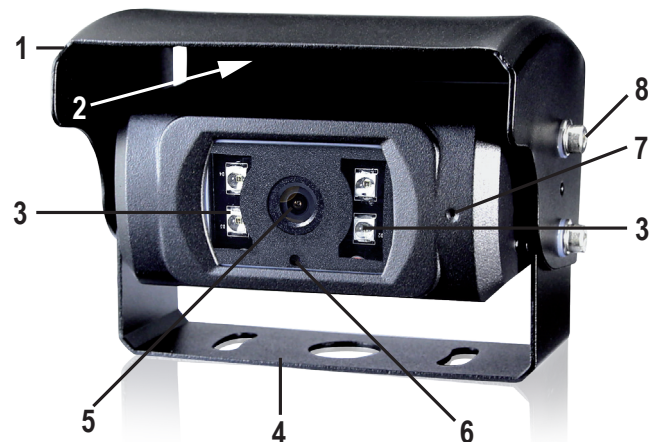
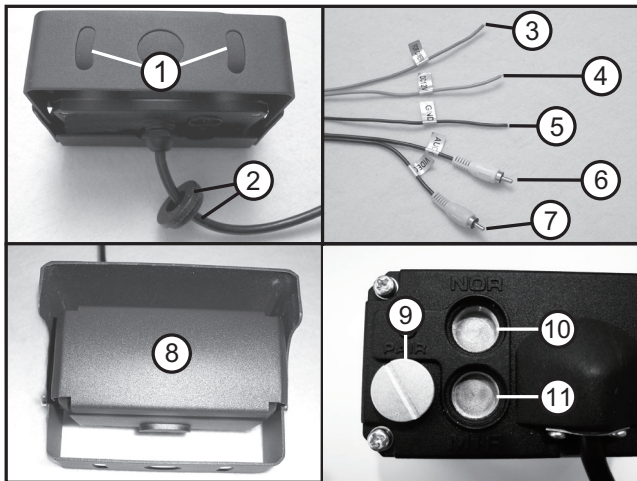
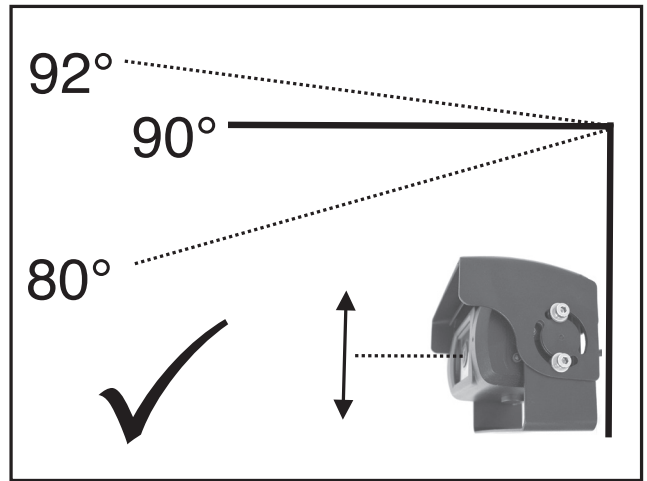

Figure 1
Figure 2
Figure 3
The camera is not suitable for mounting in a hanging position. As shown in figure 3, the installation must be in an upright position or similar.
- Place the camera along with the mounting bracket (figure 1, pos. 4) on the intended mounting location and mark the mounting holes in the middle of the two slots of the mounting bracket (figure 2, pos. 1). Drill the mounting holes, suitable for the screws to be used, with an appropriate drill.
- Check whether your vehicle already has a suitable opening that can be used to lead the camera's connection cable with 5-pole plug (Fig. 2, Pos. 2) into the interior of the vehicle. Otherwise, you must drill a corresponding hole at a suitable spot. To be able to correctly install the cable seal attached to the camera's cable (Fig. 2, Pos. 2), the drilled hole must have a diameter of 20 mm.
- Engage the power supply for the camera. For this purpose, connect the black cable ("GND", figure 2, pos. 5, approx. 3.5 meters long) with the vehicle mass (negative, e.g. for the reversing light) and the red cable ("DC 12V", figure 2, pos. 4, approx. 10 meters long) with a 12V-positive cable which only carries voltage when the ignition is turned on (e.g. under the dashboard). Connect the pink cable ("for camera", figure 2, pos. 3, approx. 3.5 meters long) to a cable which connects the reverse lighting with the positive pole of the battery when you go into reverse gear (e.g. the backup light).
- Connect the audio output (figure 2, pos 6, white connector) and video output (figure 2, pos 7, yellow connector) to the monitor that you have been provided for the number plate camera. A suitable extension cable is not included in the delivery and must be purchased for the required length separately.
- Carry out a test run according to the following point "Operation of the number plate camera." Check the function of the number plate camera before the final mounting of the camera. Decide whether you want to mirror the image signal left/right. You can mirror the video signal by turning the magnetic drain plug (figure 2, pos 9) from "NOR" (fig. 2, pos 10) to "MIR" (fig. 2, pos. 11).
- Unfasten the mounting screws slightly on both sides (fig. 1, pos. 8) in order to adjust the camera's angle of inclination. While adjusting the camera pay attention that the camera shutter is able to move freely. When the adjustment is completed, re-tighten the screws on both sides. For this, please also refer to Figure 3.
If the vehicle is placed in reverse while it is running, the backup lights come on. Since the camera has been connected to a cable of the backup lights, the camera shutter now opens (fig. 1, pos 2). Only the area to the back that is recorded by the camera appears on your monitor. You will hear the noises behind your vehicle in the monitor's loudspeaker via the microphone integrated in the camera (fig. 1, pos. 7).
In darkness, the backup area is illuminated by the infrared LEDs (fig. 1, pos. 3) integrated in the camera, which makes the recognition of obstacles easier. The infrared LEDs are switched on automatically via the built-in light sensor (fig. 1, pos. 6). If you change back to forward gear, the camera shutter closes again (fig. 2, pos. 8) and thus protects the camera from outside influences.